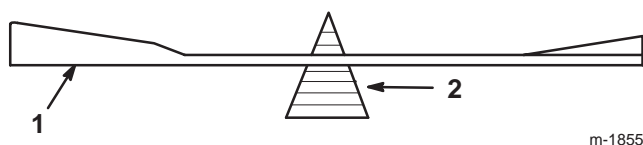

Figure 31
2. Check the balance of the blade by putting it on a blade balancer (Fig. 31). If the blade stays in a horizontal position, the blade is balanced and can be used. If the blade is not balanced, file some metal off of the back side of the blade. Repeat this step until the blade is balanced.